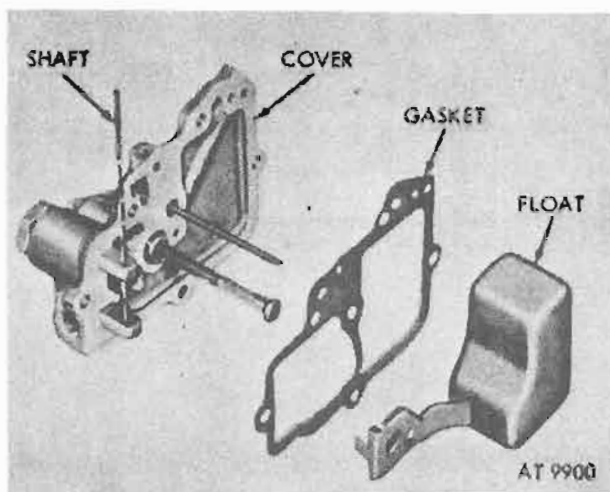
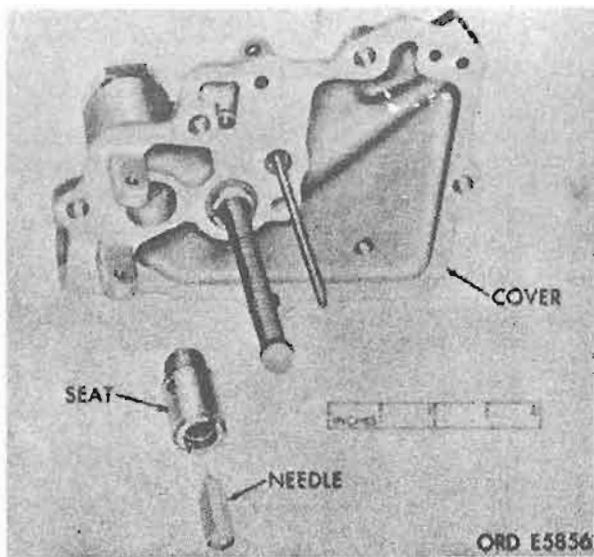

Figure 5-8. Carburetor float and float shaft.
Figure 5-9. Inlet needle seat and needle.
(2) Remove float shaft. Lift out float and remove cover gasket (fig. 5-8).
(3) Tilt cover to allow fuel inlet needle to fall out. Remove fuel inlet needle seat (fig. 5-9).
Install fuel inlet needle seat and fuel inlet needle (fig. 5-9). Install float with new gasket; secure float with float shaft (fig. 5-8).